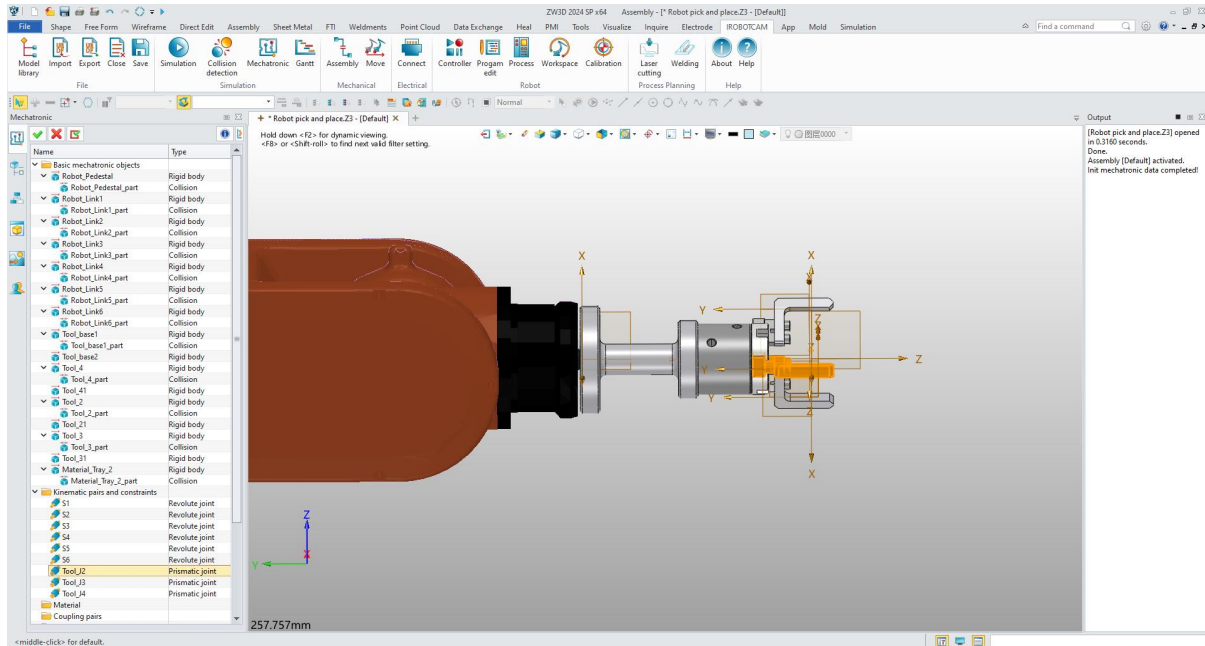

Figure 10-4: Three Prismatic Joints
- Verify highlighting: After adding the three joints, click on each joint to verify that the corresponding part of the claw is highlighted correctly. (Figure 10-4)